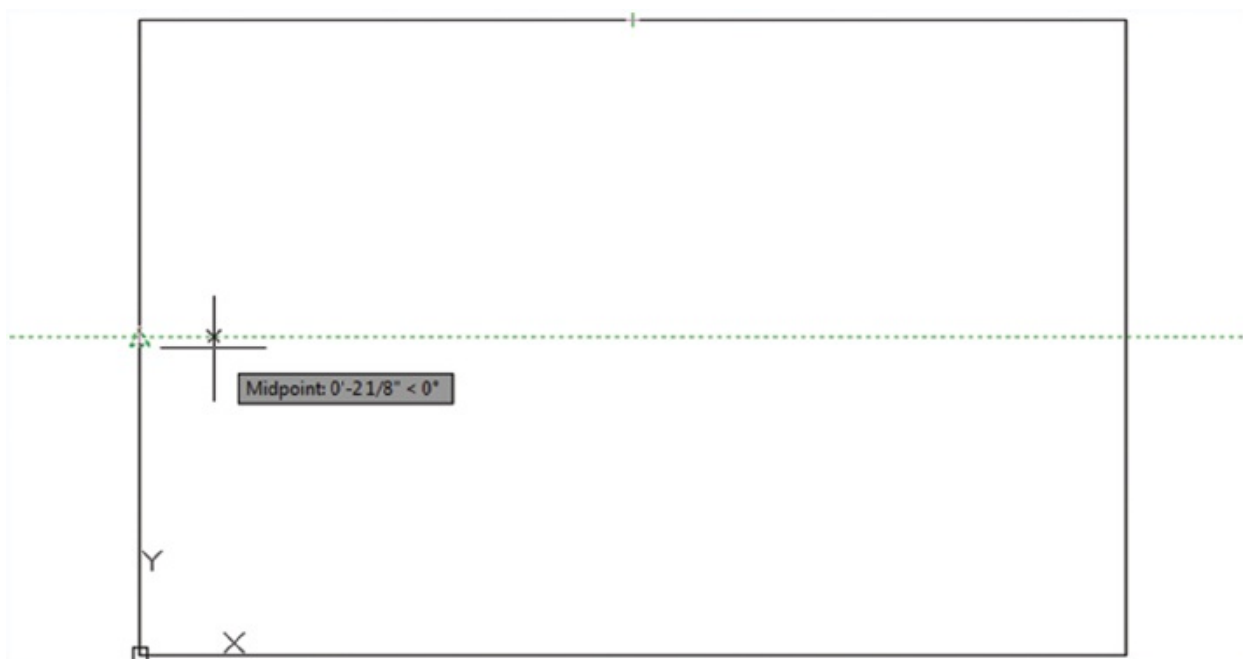

FIGURE 3.20 A horizontal dotted line appears.
5. Move the cursor to the midpoint of the left vertical side of the rectangle. Don't click, but hold it there for a second until you see the small cross. Now, as you move the cursor away, a horizontal dotted line appears with an *X* following the cursor (see Figure 3.20).